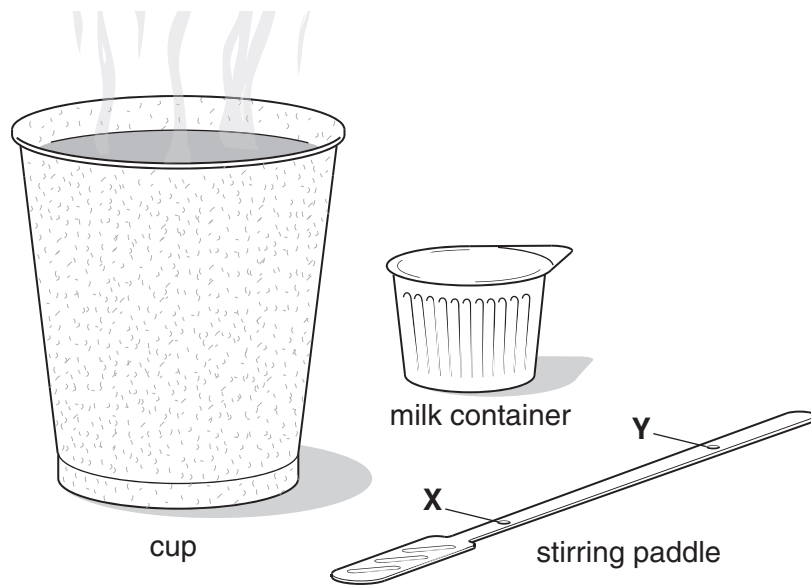

Fig. 5
- 3 Fig. 5 shows a cup, a milk container and a stirring paddle, all made from plastic.